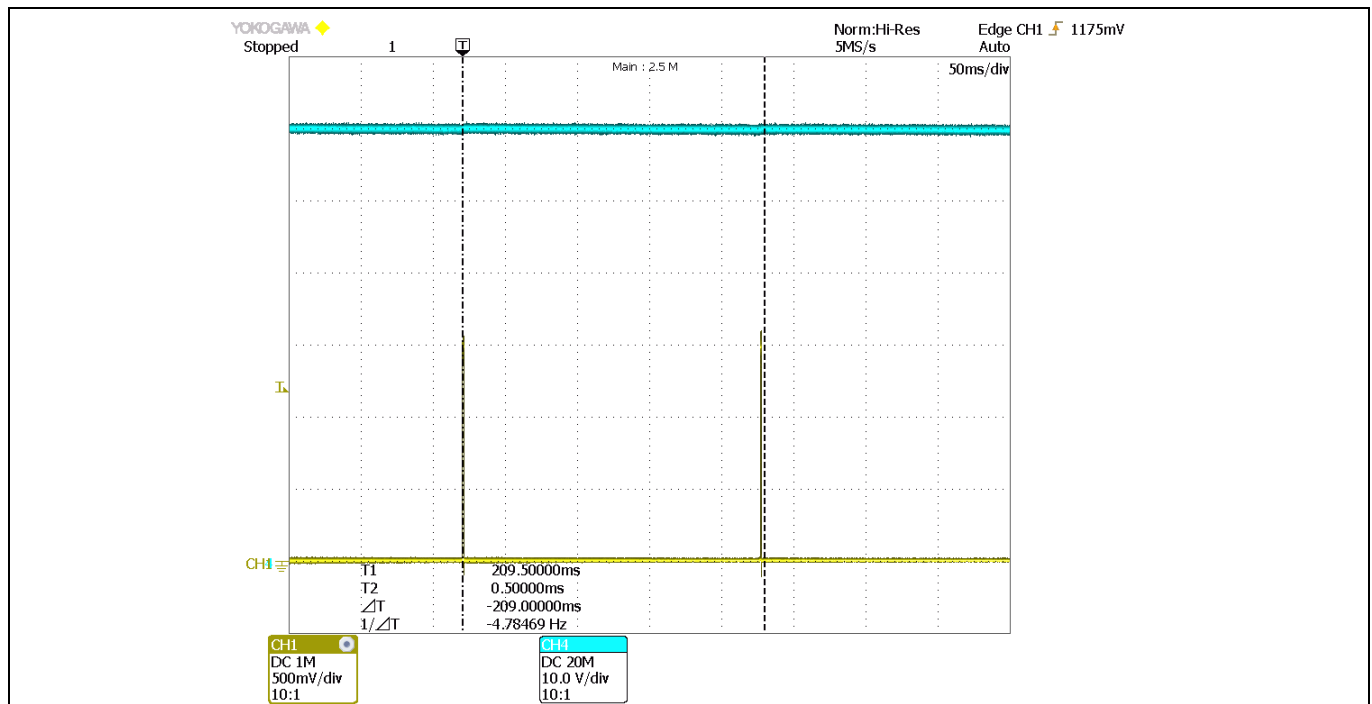
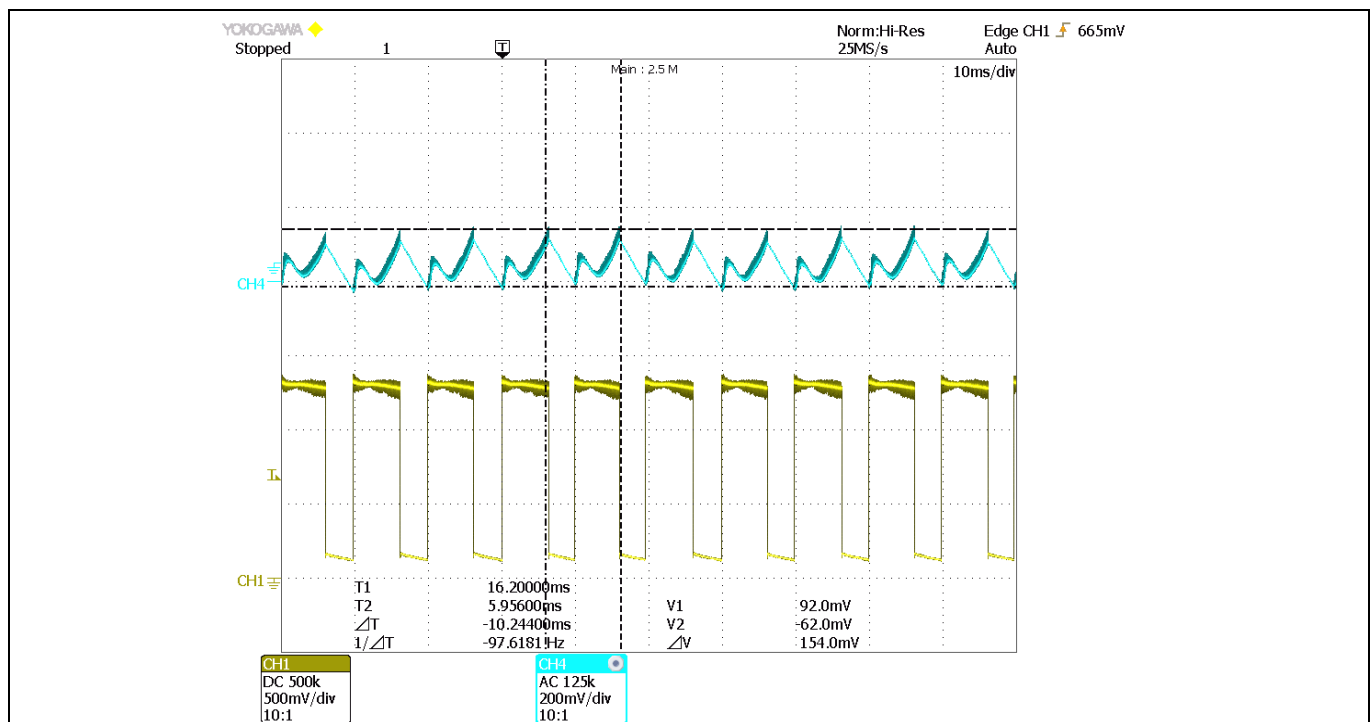
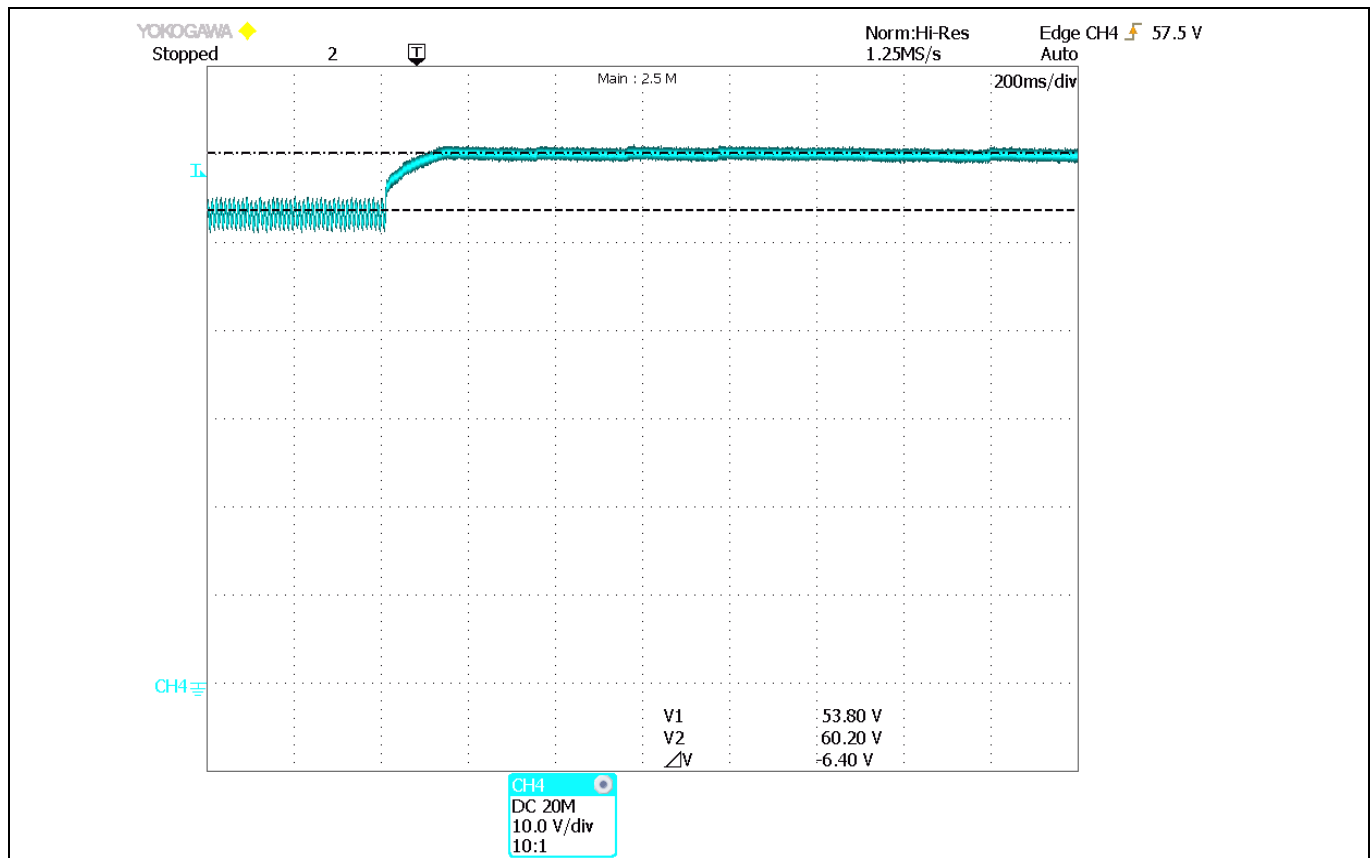
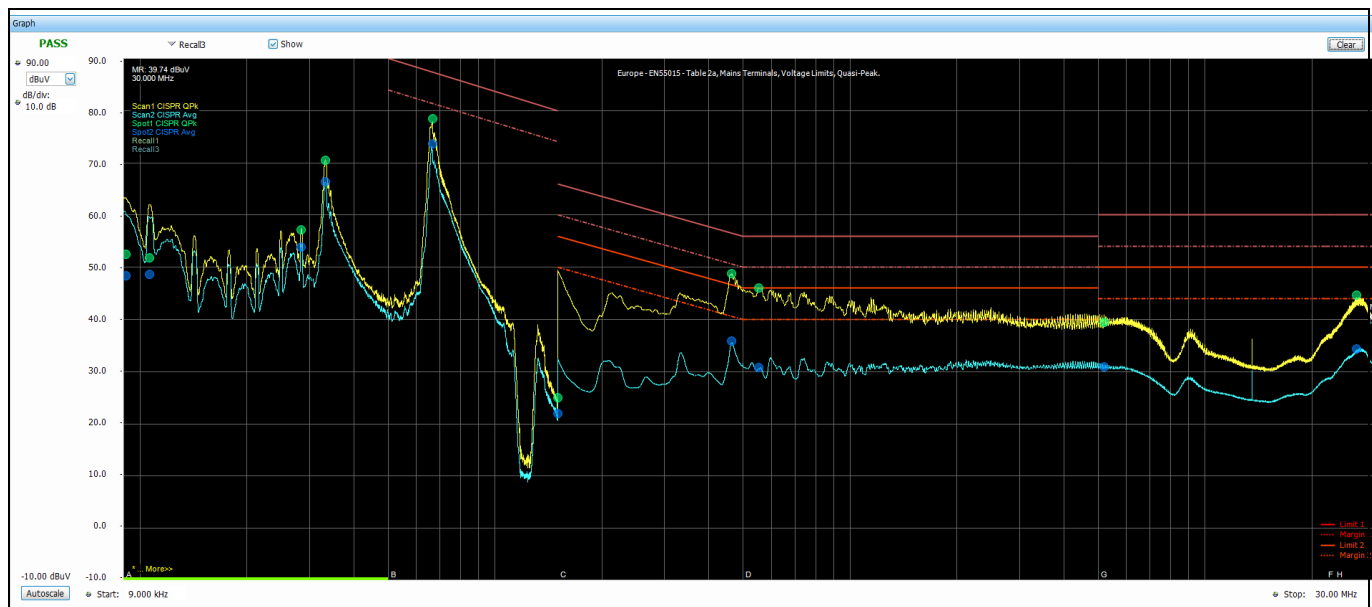

**Figure 8** ICL8810 PFC-PSR-flyback reference design iTHD
**Figure 9** ICL8810 minimum output power when the IC moves into burst mode over input voltage
**Figure 10** ICL8810 PFC-PSR-flyback reference design in OVP mode. Blue is the output voltage, and yellow is the VS pin
**Figure 11** ICL8810 PFC-PSR-flyback reference design in burst mode. Blue is the output voltage in AC coupling mode, and yellow is the VS pin
**ICL8810** has a burst mode feature. This helps control the output voltage quite accurately down to a very low output power level, as shown in **Figure 9**. After this level, the IC moves gradually to burst mode, as shown in **Figure 11**, and finally to the OVP shown in **Figure 10**.
The board shows an excellent performance, such as the power factor shown in Figure 7 and iTHD shown in Figure 8. iTHD is below 10 percent down to 50 percent of the load level; PF is higher than 0.9 down to 60 percent of the load. Figure 9 shows a minimal output power level when the power stage is not in burst mode, which means good regulation and minimum voltage ripple.
**Figure 10** shows overvoltage protection, when 200 ms short pulses appear on VS pin. **Figure 12** shows the dynamic transition from full to zero, when the power stage moves into the overvoltage protection.